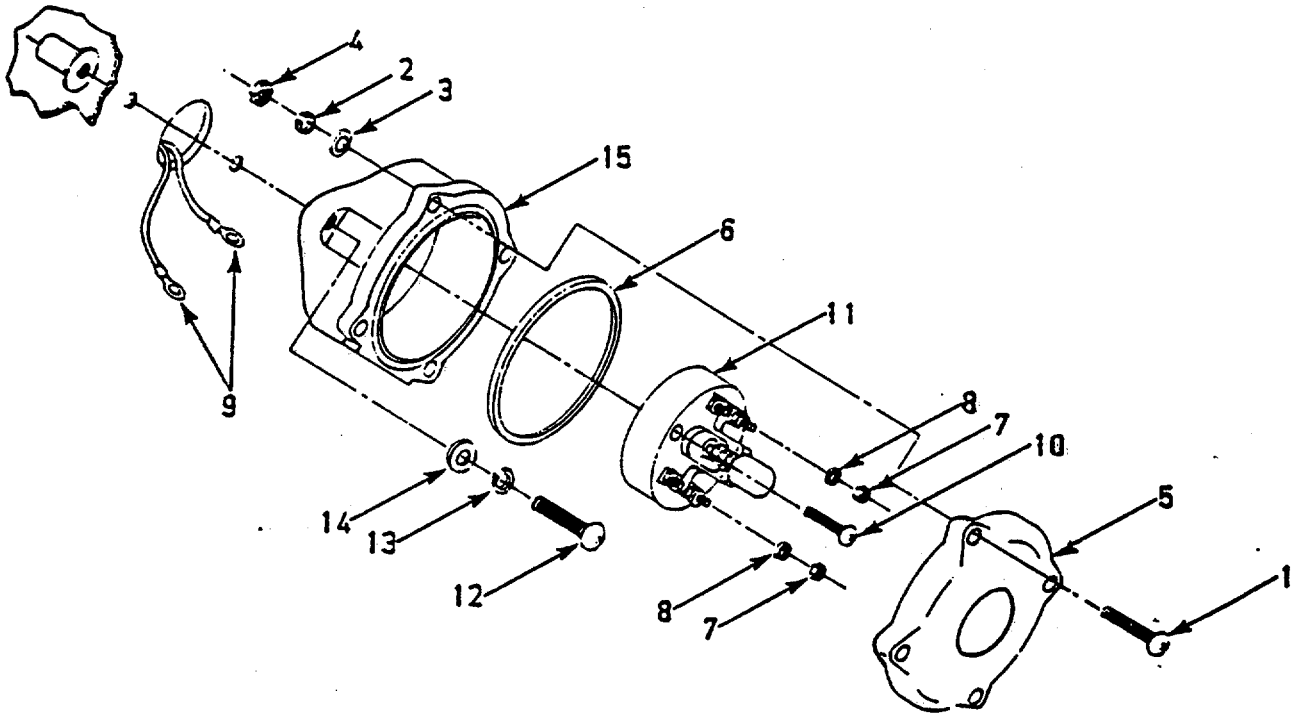

Figure 4-43. Blackout Warning Assembly
(1) Switch.
- (a) Remove push button switch screws (1, Figure 4-43), lockwashers (2), flat washers (3), and nuts (4) from switch cover (5).
- (b) Remove switch cover (5) and gasket (6).
- (c) Remove nuts (7) and lockwashers (8).
- (d) Tag and disconnect electrical wires (9).
- (e) Remove screws (10) and switch (11).
- (f) Remove screws (12), lockwashers (13), and flat washers (14).
- (g) Remove housing (15).
- (h) Position switch housing (15) of push button switch on shelter and secure with screws (12), lockwashers (13), and flat washers (14). Seal to shelter wall with RTV (3, Appendix E).